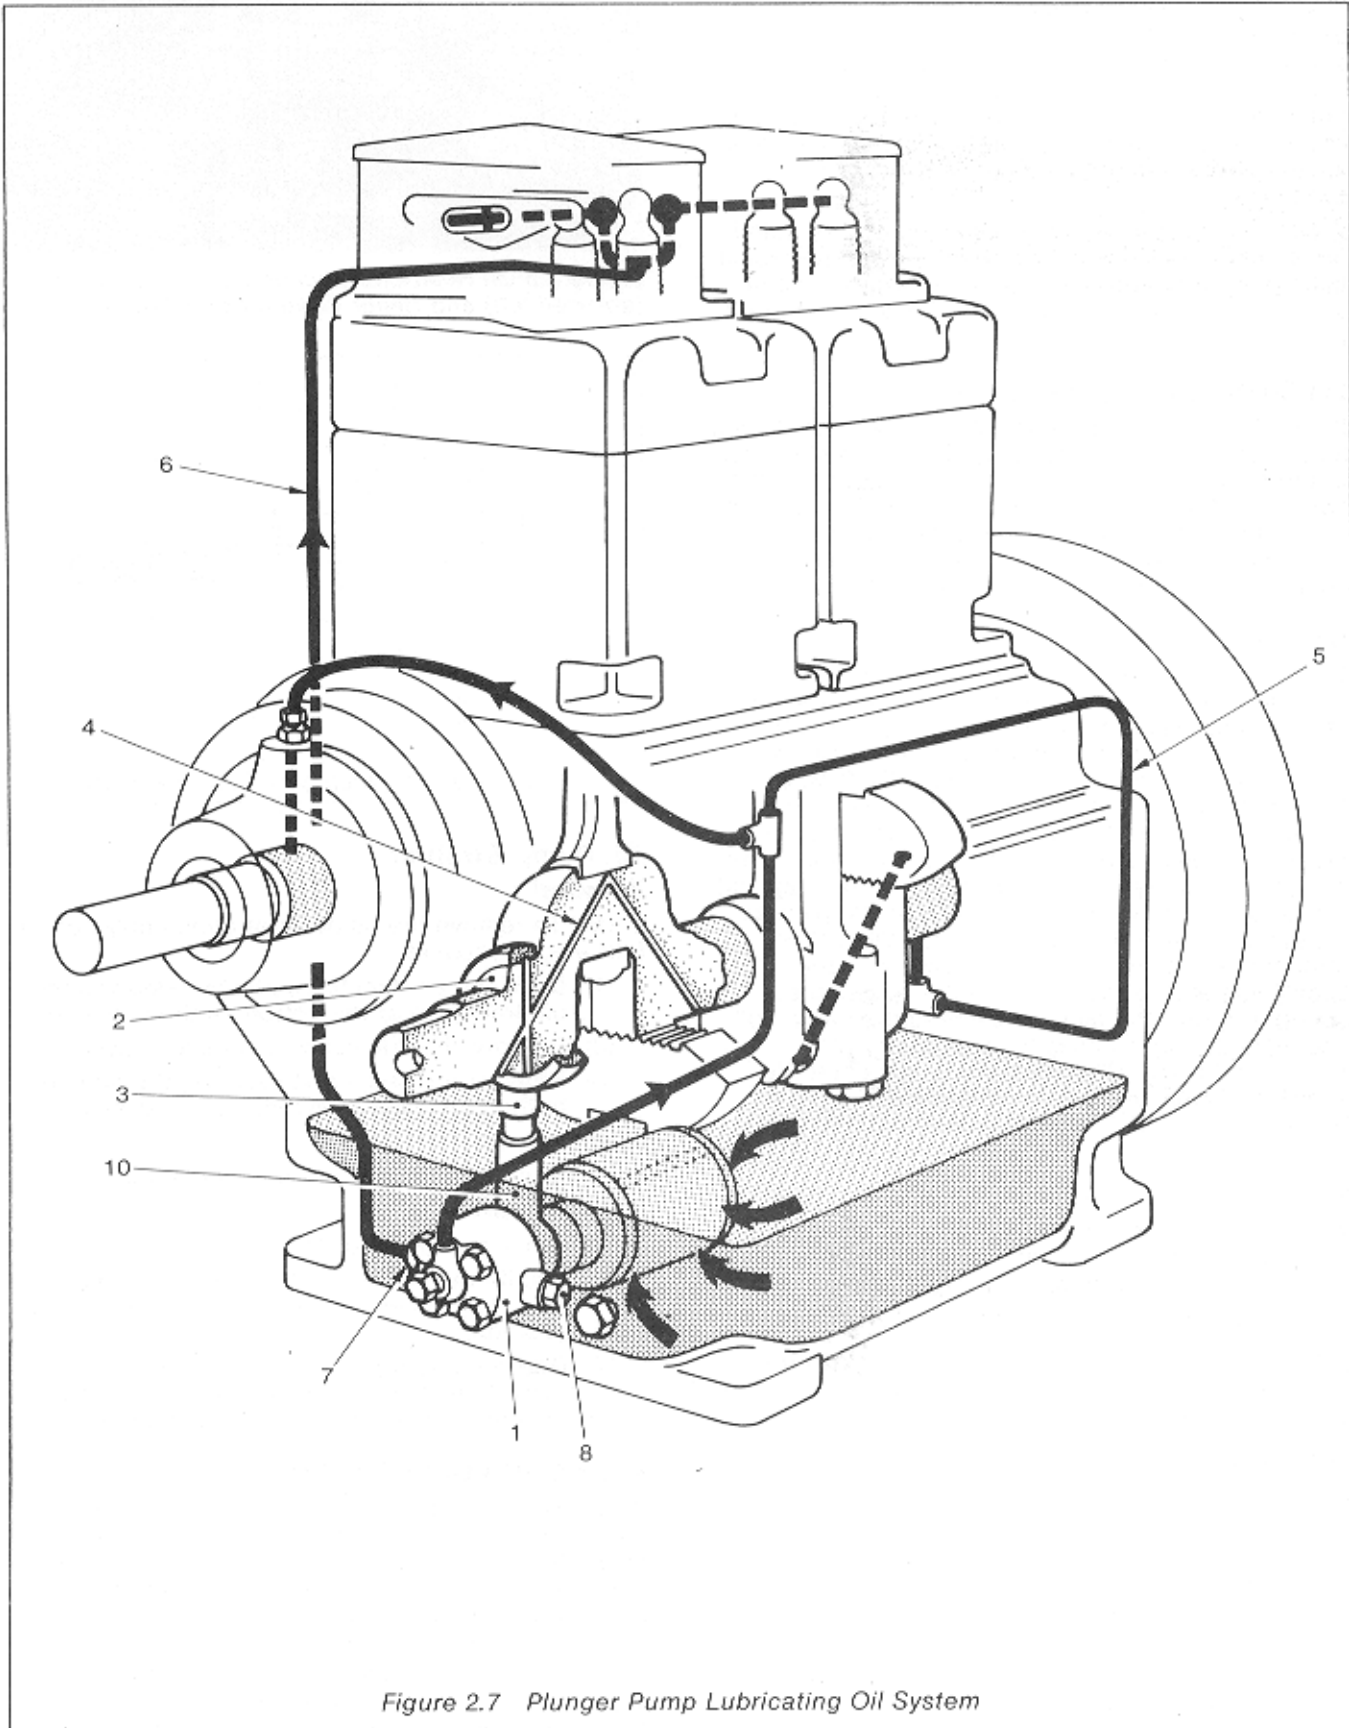

Figure 2.7 Plunger Pump Lubricating Oil System
2.19 The lubricating oil system using a plunger type pump is shown in Figure 2.7. Lubricating oil is drawn from the sump via a strainer by the plunger pump (1) which is submerged in the oil at the gear end of the crankcase sump. The pump is operated by an eccentric (2) on the crankshaft.